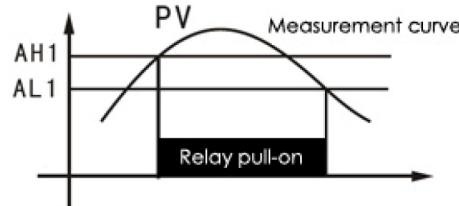

Figure 1
- (1) When setting AH1=AL1, the relay is invalid.
- (2) When setting AH1>AL1, if the measurement value is ≥AH1, the relay pulls on; when the measurement value is ≤AL1, the relay releases. See figure 1 for action of the relay and often used for upper limit alarm.